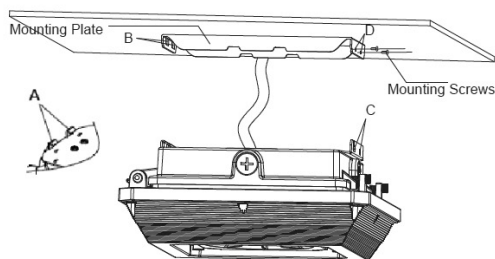

Figure 3-3
3. Thread the fixture wires through the mounting plate and connect with supply power wires (L/N/G). Hang the hook A in hole B; hang the hole C in hole D, and secure with mounting screws. Figure 3-3